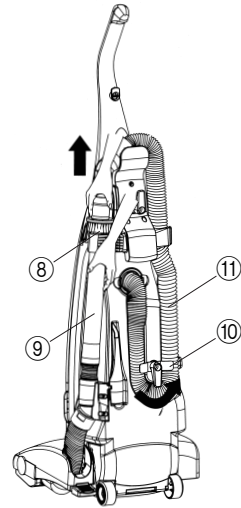

Fig.10
HOW TO USE TOOLS (Fig. 10, 11, 12)
2. Hold the dusting brush ⑧ and the extension pipe ⑨ as shown in Fig.10, and disconnect the dusting brush from the extension pipe.
3. Turn the hose storage hook ⑩ counter clockwise, and remove the flexible hose ⑪ from the back of the cleaner.
NOTE: The extension pipes should be re-inserted as shown in Fig.10.